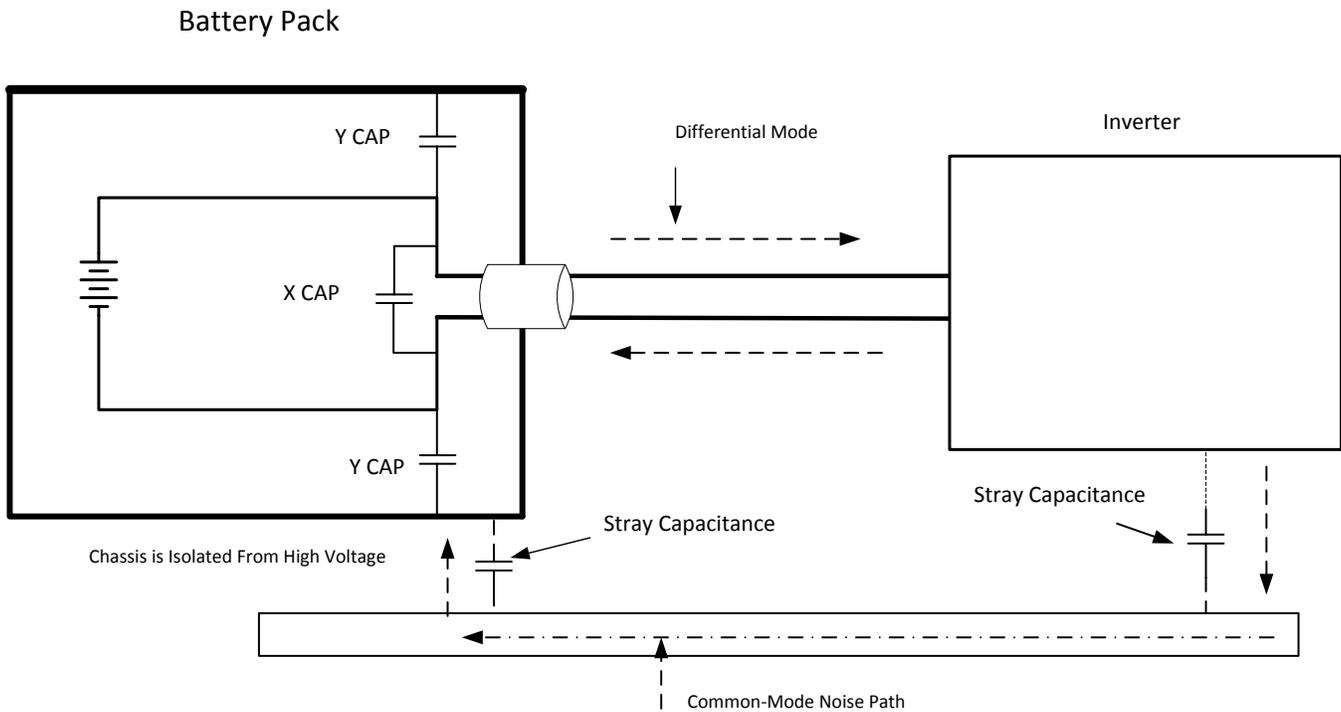

Figure 34. XY Caps
- Common mode noise goes out from both wires and returns back to the chassis through stray capacitance to ground. A Y capacitor is placed between the chassis as Figure 34 illustrates.